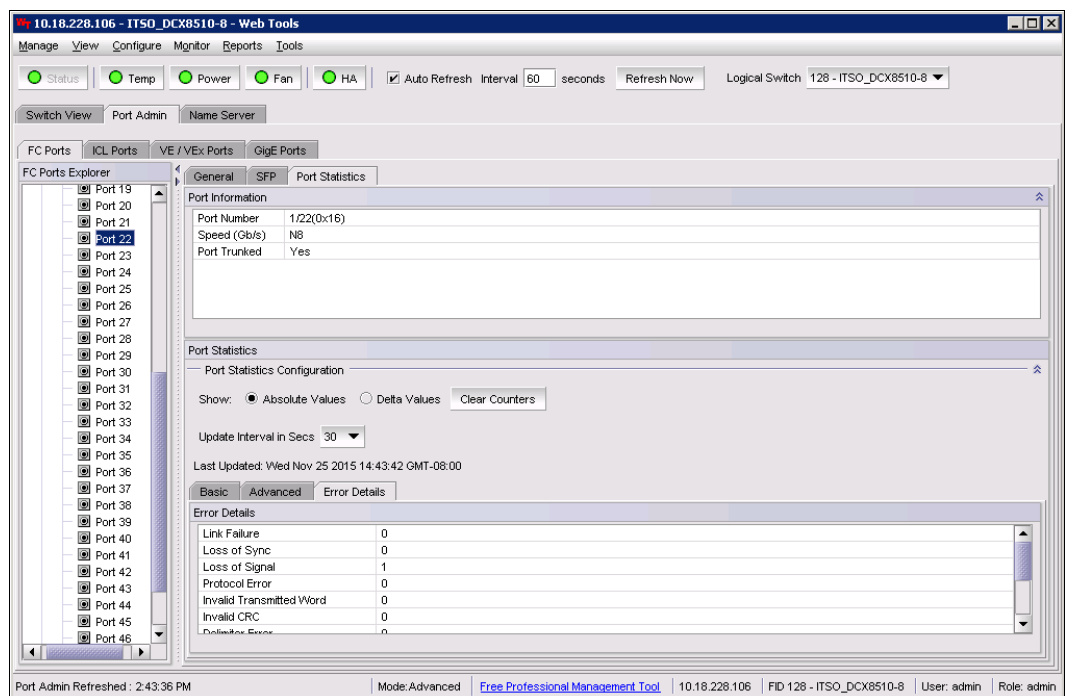

Figure 12-5 Port error statistics
7. Select the Port Statistics tab and the port statistics are displayed for the selected port in the lower Port Statistics pane. Selecting either the Advanced tab or the Error Details tab in the Port Statistics pane provides error statistics on the ports (see Figure 12-5).